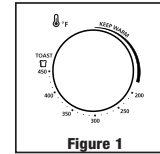

Figure 1
3. **Temperature Control Knob** – Adjust the dial thermostat to the desired temperature. (See Figure 1)